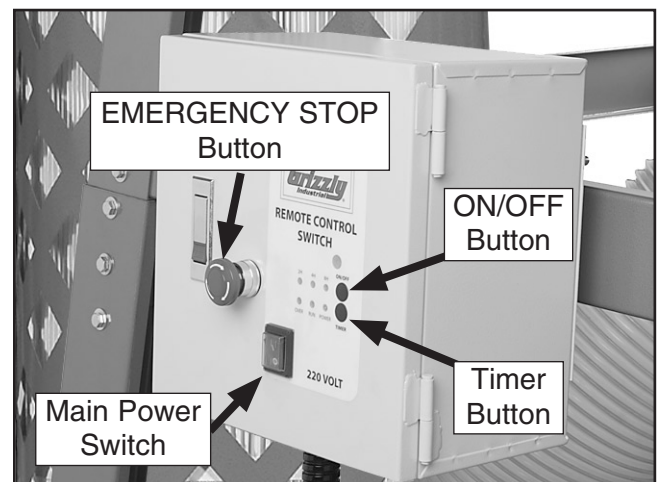

Figure 46. Control box (Model G0638 shown).
4. Flip the main power switch at the lower left hand corner of the control box (see **Figure 46**).